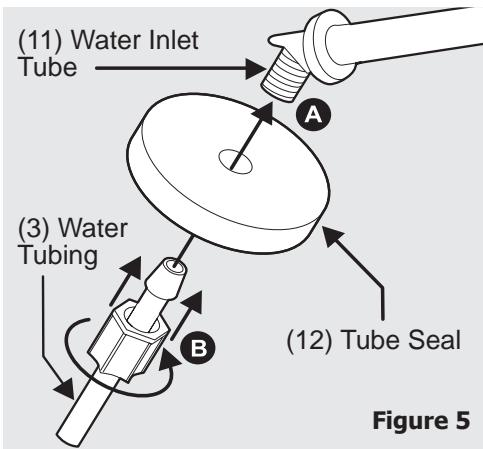

Figure 5
9. Push tube seal (12) over threads (Figure 5). Push plastic water supply tubing (3) into water inlet tube (11) as far as it will go and finger tighten nylon compression nut onto threaded end of inlet tube. Tighten another $\frac{1}{2}$ turn with a wrench. DO NOT over-tighten.